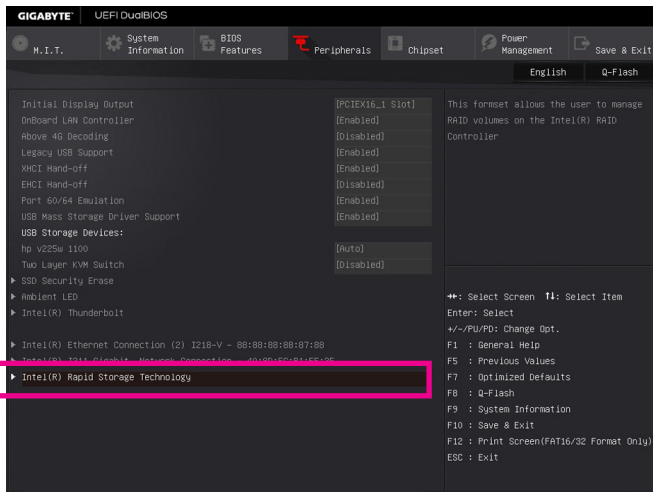

Figure 3
After the system reboot, enter BIOS Setup again. Then enter the **Peripherals|Intel(R) Rapid Storage Technology** sub-menu (Figure 3).